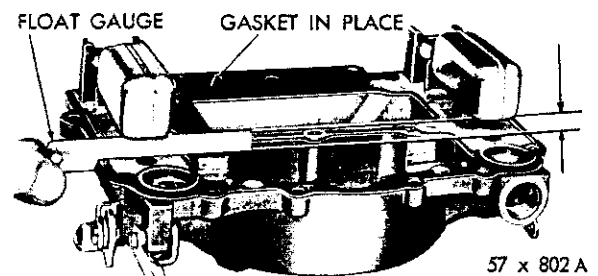

Fig. 11—Measuring the Float Height
(1) With the air horn inverted, the air horn gasket in place and the float needle seated, slide the float gauge Tool T109-106 ($\frac{3}{32}$ ") between the top of the float (at outer end) and the air horn gasket, as shown in Figure 11. On C-300H use the float gauge T109-126 ($\frac{3}{32}$ ") on the front carburetor and T109-106 on the rear carburetor. The float should just touch the gauge.